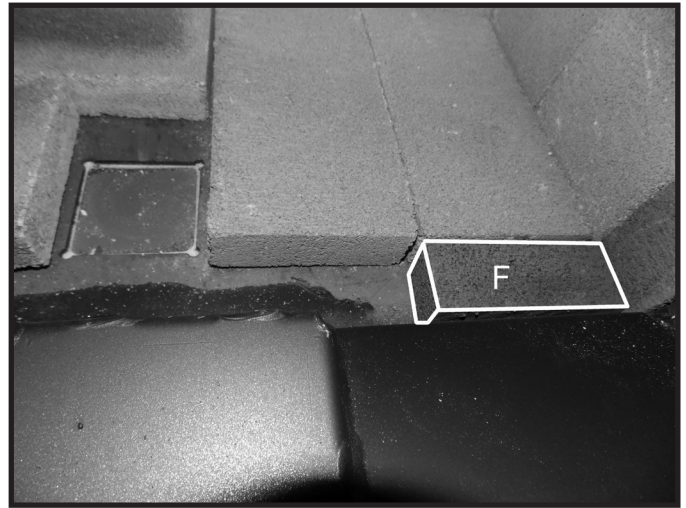
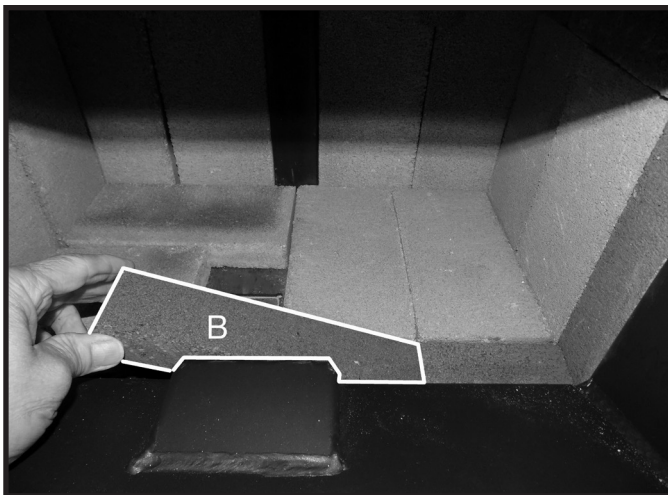
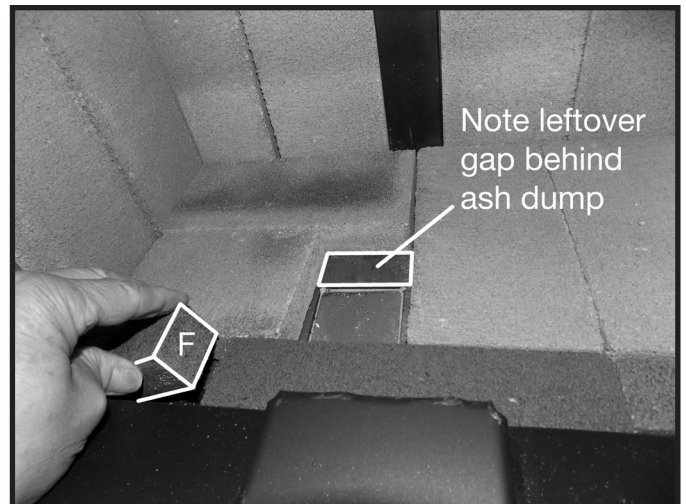

Figure 18: Short, narrow brick installed in front row.
Figure 19: Long narrow center brick in front row.
Figure 20: Final short narrow brick in front row.
7. Place a short narrow "F" brick against the front right side of the floor (Figure 18) followed by a longer "B" brick in the center of the front row (Figure 19). Finish with the last "F" brick placed against the left side front row (Figure 20). Note: There will be a leftover gap behind the ash dump.